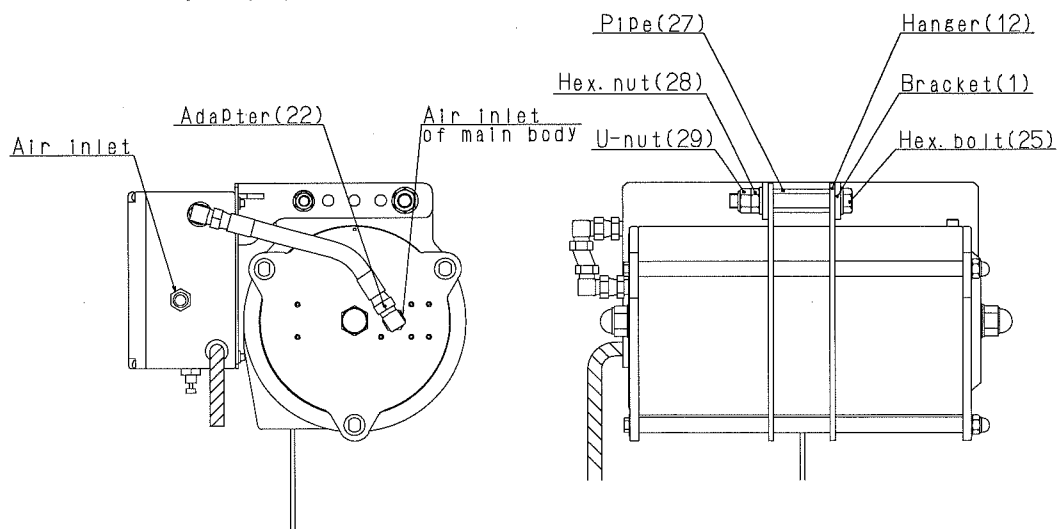

Fig.1
1. Put bracket (1) into the outside of hanger (12) and adjust bores of both hanger and bracket as Fig. 1.
2. Pass pipe (27) through between hangers and insert hex. bolt (25).